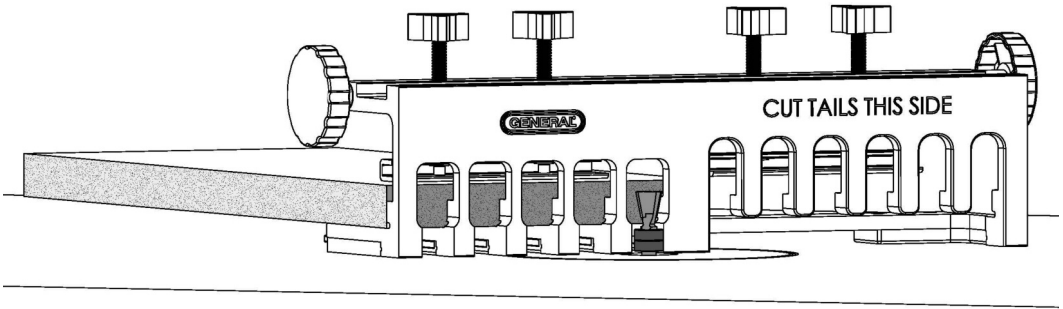

FIG. 13
10. Make all cuts to the pins board. For those cuts, the router should ride on the surface marked "cut pins this side" shown in FIG. 13 & 14. Be sure to follow the jig profile.